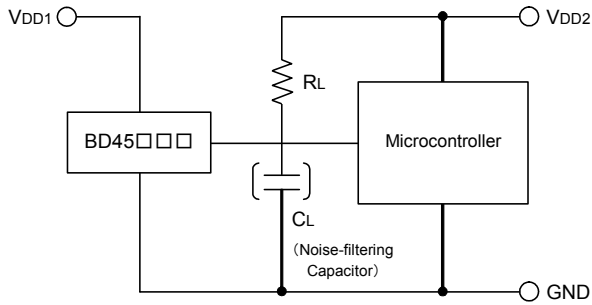

Fig.18 Open Collector Output Type
CASE1: the power supply of the microcontroller (VDD2) differs from the power supply of the reset detection (VDD1). Use the open drain output type (BD45□□□G) attached a load resistance (RL) between the output and VDD2. (As shown Figure 18)